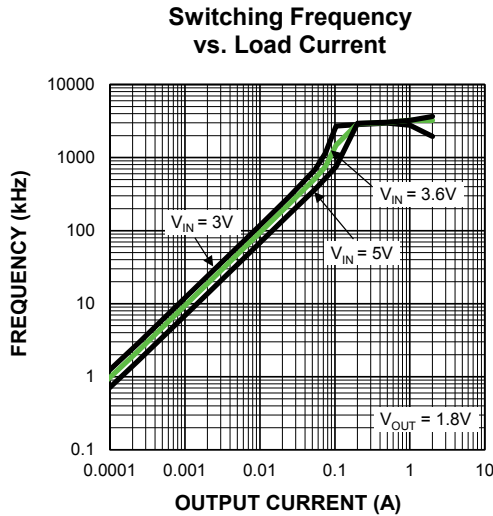

Figure 4. SW Frequency vs. Output Current
As shown in Equation 11, the load at which the MIC23451 transitions from HyperLight Load mode to PWM mode is a function of the input voltage ( $V_{IN}$ ), output voltage ( $V_{OUT}$ ), duty cycle (D), inductance (L), and frequency (f). Figure 4 shows that as the output current increases, the switching frequency also increases until the MIC23451 goes from HyperLight Load mode to PWM mode at approximately 120mA. The MIC23451 will switch at a relatively constant frequency around 3MHz after the output current is over 120mA.